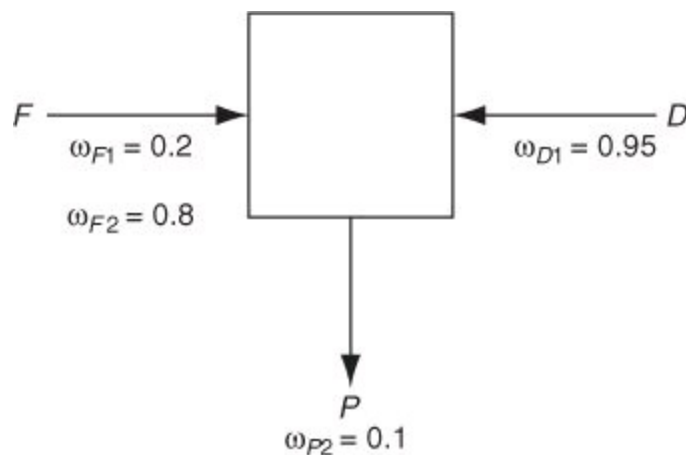

Figure SAT3.2P3
3. How many values of the concentrations and flow rates in the process shown in Figure SAT3.2P3 are unknown? List them. The streams contain two components, 1 and 2.